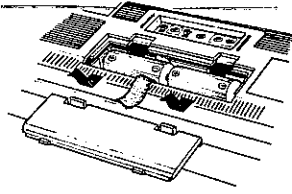

Fig. 1
1. Open the battery compartment lid by pushing the knobs in the direction of arrow (Fig. 1).